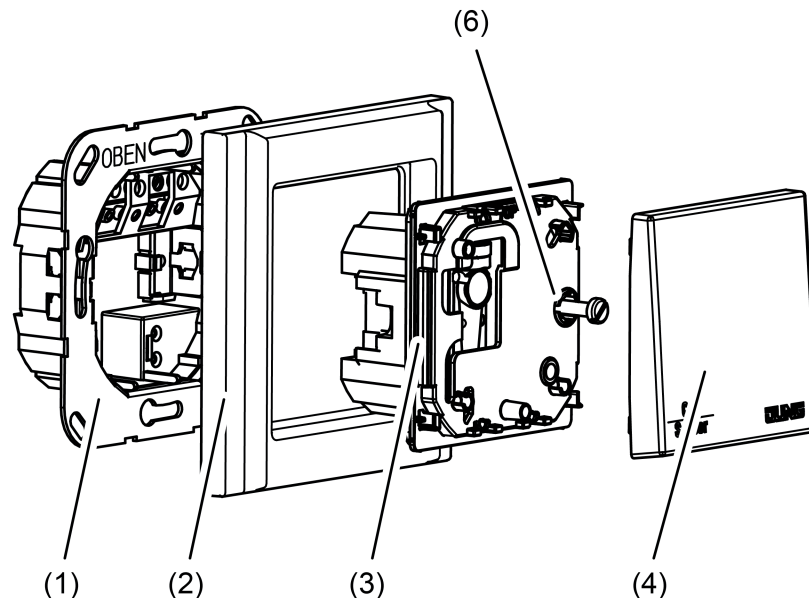

Figure 2: Device fitting
- Removing the cover (4) (figure 2).
- Isolate device connection terminal insert (1) from electronic insert (3).